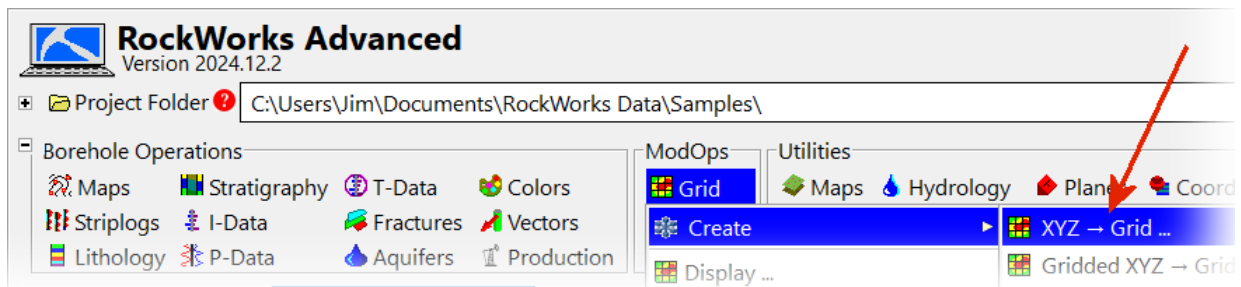

Figure 30
- Select the *ModOps / Grid / Create / XYZ -> Grid* program (Figure 30).